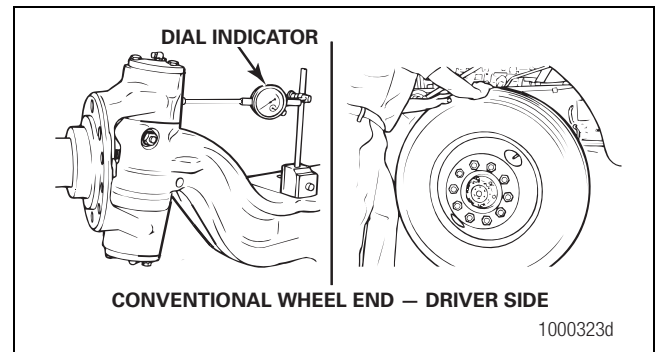
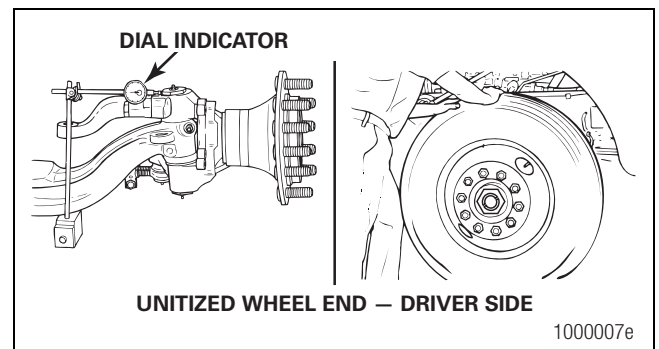

Figure 3.6
Figure 3.7
3. Check the upper king pin bushing for wear. Install a dial indicator with the base on the I-beam and the tip against the side of the top of the knuckle. Figure 3.6 and Figure 3.7.
- **If the dial indicator moves a total of 0.015-inch (0.381 mm):** The upper bushing is worn or damaged. Replace both bushings in the knuckle. Refer to Section 4, Section 5 and Section 6. Figure 3.6 and Figure 3.7.